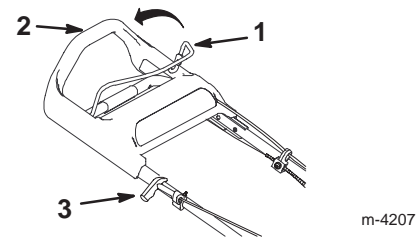

Figure 12
3. Hold the blade control bail against the upper handle (Fig. 12).
4. Pull the starter handle lightly until you feel resistance, then pull it sharply (Fig. 12). Allow the rope return to the handle slowly.